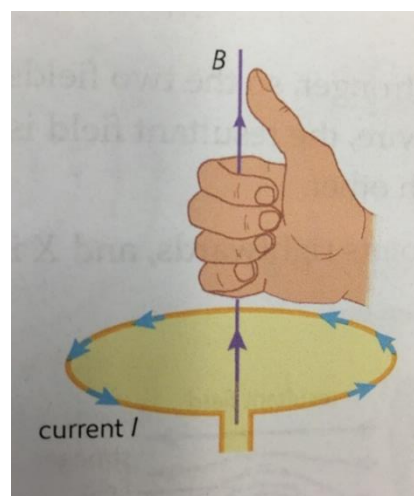
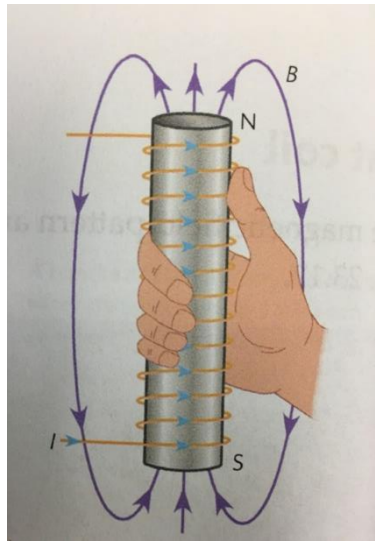

Figure 8a. When current passing through a coil wire
Figure 8b. When current passing through a solenoid
Procedure	<p>Activity 1 (Current passing through a straight wire)</p> <ol style="list-style-type: none"> 1. Apply a current passing through a straight wire as shown in Figure 7. 2. Put several small compasses round the wire. 3. By observing the needle direction 4. Students need to use the 3D printing models to connect them together to show the relationship between Magnetic field (B) and Current (I). 5. Reserve the current direction and repeat step 2-4. <p>Activity 2 (Current passing through a coil)</p> <ol style="list-style-type: none"> 1. Apply a current passing through a coil as shown in Figure 8a. 2. Put several small compasses round the coil. 3. By observing the needle direction 4. Students need to use the 3D printing models to connect them together to show the relationship between Magnetic field (B) and Current (I). 5. Reserve the current direction and repeat step 2-4. <p>Activity 3 (Current passing through a solenoid)</p> <ol style="list-style-type: none"> 1. Apply a current passing through a solenoid as shown in Figure 8b. 2. Put several small compasses round the solenoid. 3. By observing the needle direction 4. Students need to use the 3D printing models to connect them together to show the relationship between Magnetic field (B) and Current (I). 5. Reserve the current direction and repeat step 2-4.